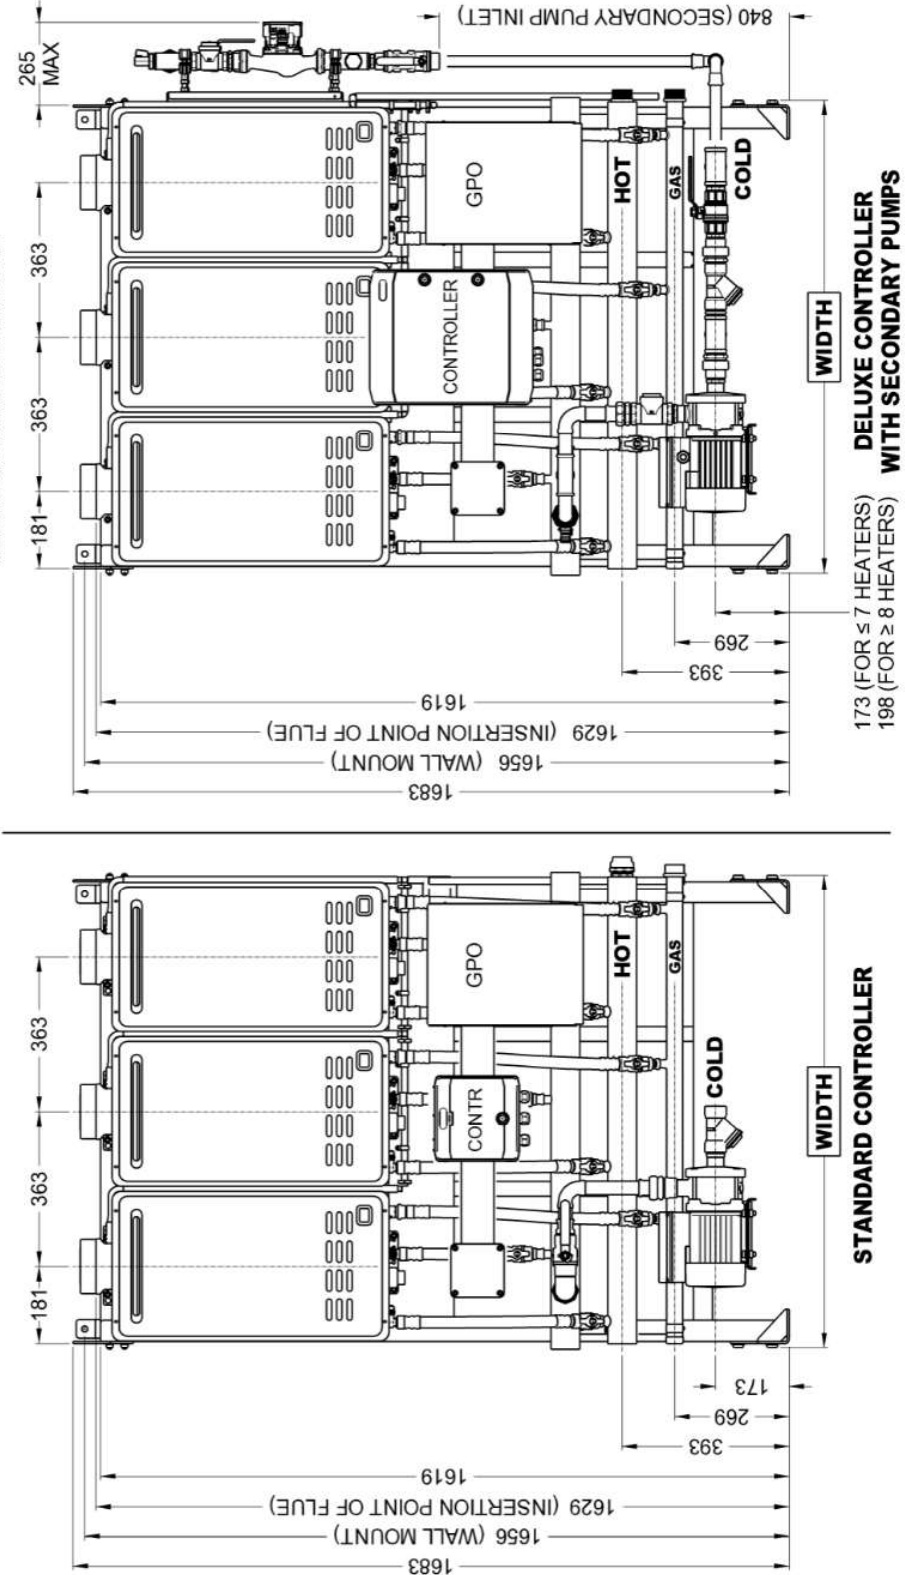

FIGURE 3: TANKPAK SERIES 3 STANDARD AND DELUXE - FRONT ELEVATION
- 4 from the upper stiffener member of floor and wall mounted systems. Refer to **Figure 3.**